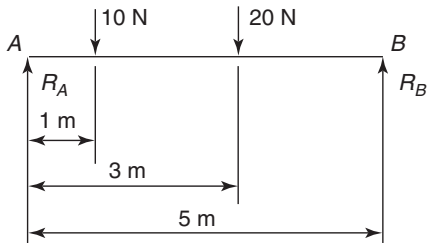

Figure 5.34
3. With reference to Figure 5.34, the clockwise moment about A is:
4. The force acting at B (i.e. R_B) in Figure 5.34 is:
5. The force acting at A (i.e. R_A) in Figure 5.34 is: